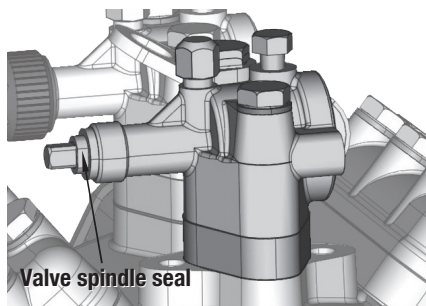

Fig. 11
- If the force engagement point shifts forwards (see Fig.11, small point), the force $F_{\max}$ reduces as per the following formula: